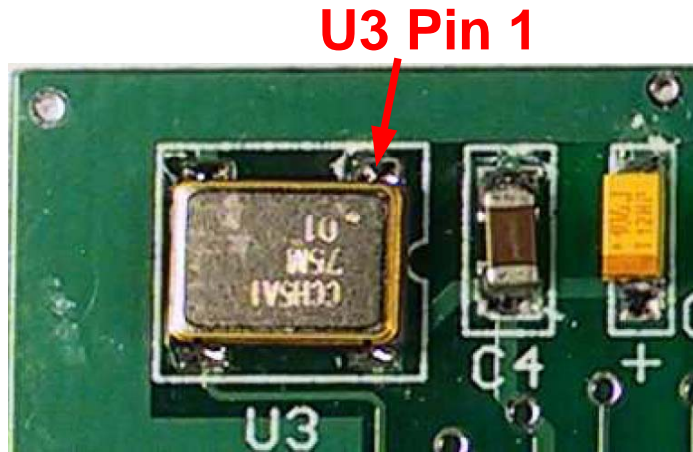

Figure 13. U3 Positioning
- ❑ Remove U3, the 75 MHz oscillator, from the active component compartment. This part has gold-plated concave recesses for pins and gold pads on the bottom. Refer to **Figure 13** for positioning.